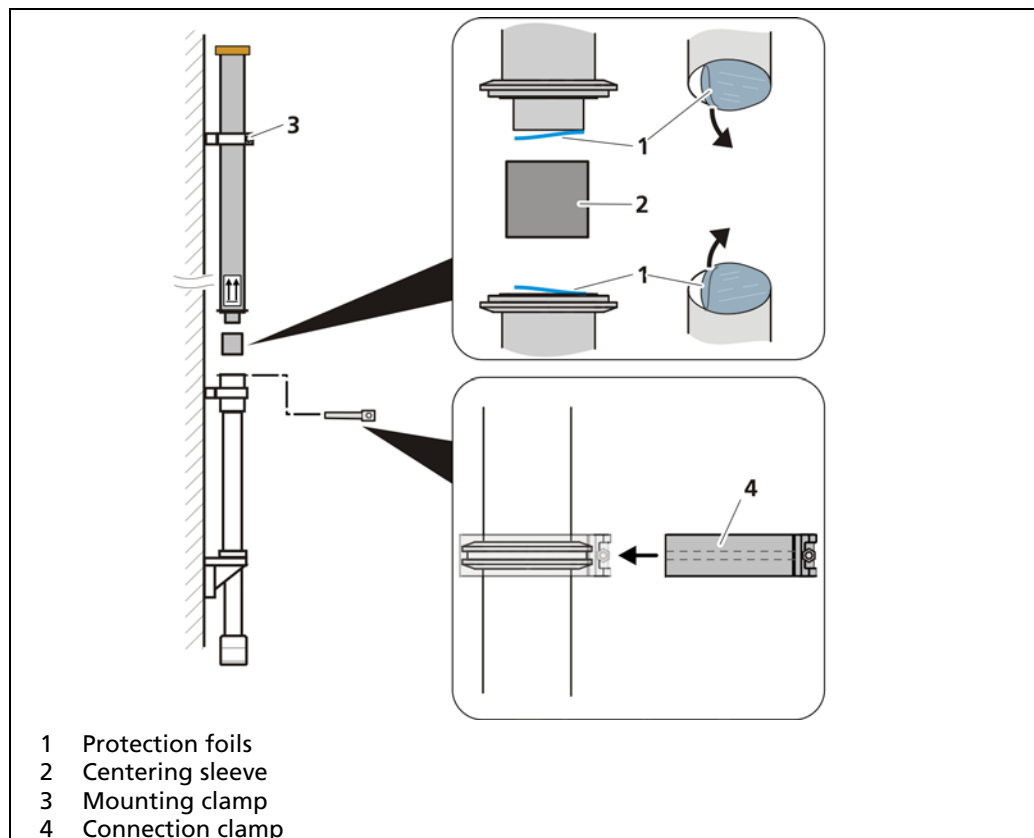

Fig. 18 Connecting modules
16. Remove the protection foil (Fig. 18, item 1) from basic module and extension bottom side. **Attention: Don't remove the silicon pad from the basic module.**
17. Insert the centering sleeve (Fig. 18, item 2) into the basic module.
18. Slightly open the mounting clamp (Fig. 18, item 3) of the extension module and lower it carefully into the centering sleeve of the basic module.
19. Securely join both modules by closing the connection clamp (Fig. 18, item 4) with a wrench size 13.
20. Close the mounting clamp (Fig. 18, item 3) again.